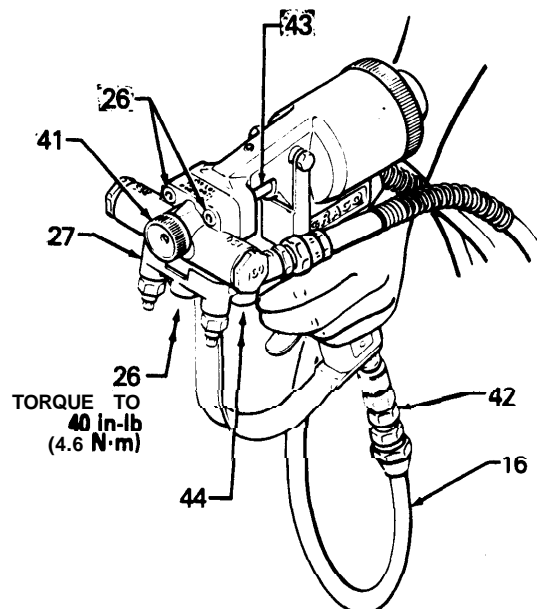

Fig 12
- l. Screw on the air cap (41). Connect the air hose of the heated hose assembly to the inlet bushing (42) of the gun. See Fig 12.
- n. Install the plastic shield (43) around the exposed part of the needle assembly to keep foam overspray from collecting on the needle. See Fig 12.
12. Connect the fluid hoses to the spray gun manifold. See Fig 12.
- a. The manifold (27) has four inlet ports, two of which are plugged with steel plugs (44). Change the position of the plugs to route the hoses straight down from the manifold, if desired.